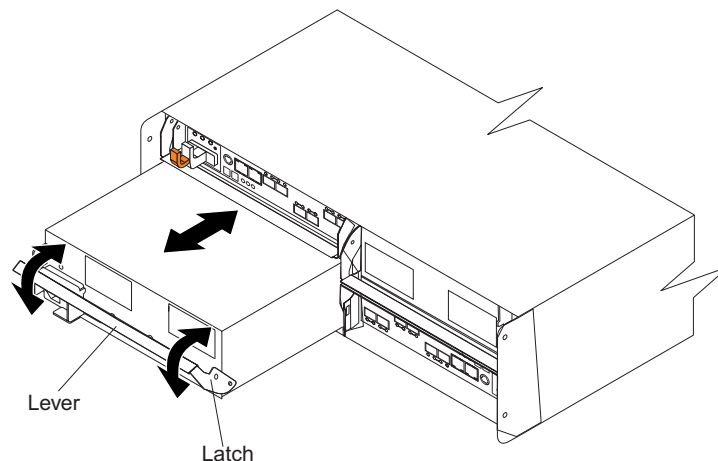

Figure 22. Replacing a power supply and fan unit
1. Slide one power supply and fan unit into the storage subsystem. Be sure to replace the power supply and fan units so that the lever on each power supply and fan unit opens toward the interior of the storage subsystem, as shown in Figure 22. Do not force fit. The power supply and fan unit is designed to prevent it from being inserted into the chassis incorrectly.
Attention: Be sure that the lever is pulled straight out as you slide the power supply and fan unit into the storage subsystem, as shown in Figure 22. The left and right power supply and fan units are seated in the DS5020 chassis in opposite orientations. If you cannot fully insert the power supply and fan unit into the power supply and fan unit bay, flip it 180° and reinsert it.